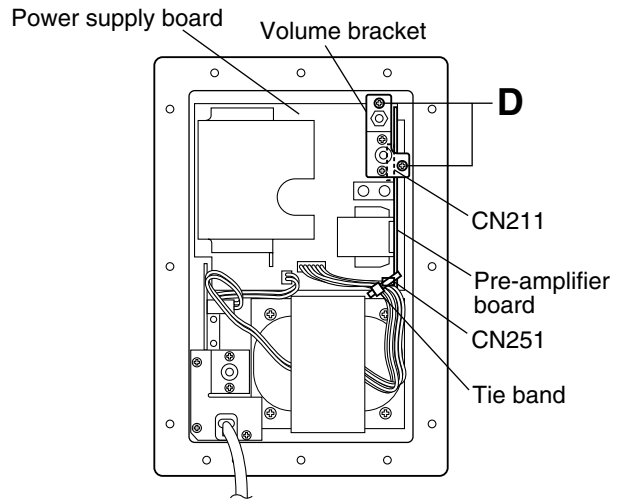

Fig.4
■ Removing the pre-amplifier board (See Fig. 4.)